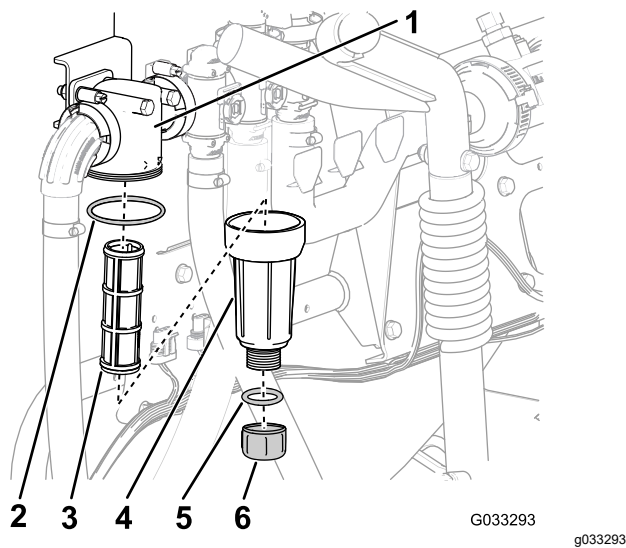

Figure 30
2. Align a drain pan under the pressure filter (Figure 30).
3. Rotate the drain cap counterclockwise and remove it from the bowl of the pressure filter (Figure 30).
4. Rotate the bowl counterclockwise and remove the filter head (Figure 30).
5. Remove the pressure filter element (Figure 30).
7. Check the gasket for the drain plug (located inside the bowl) and the gasket for bowl (located inside the filter head) for damage and wear (Figure 30).
8. Install the pressure filter element into the filter head (Figure 30).
9. Install the bowl onto the filter head, and tighten by hand (Figure 30).
10. Assemble the drain cap onto the fitting at the bottom of the bowl, and tighten the cap by hand (Figure 30).